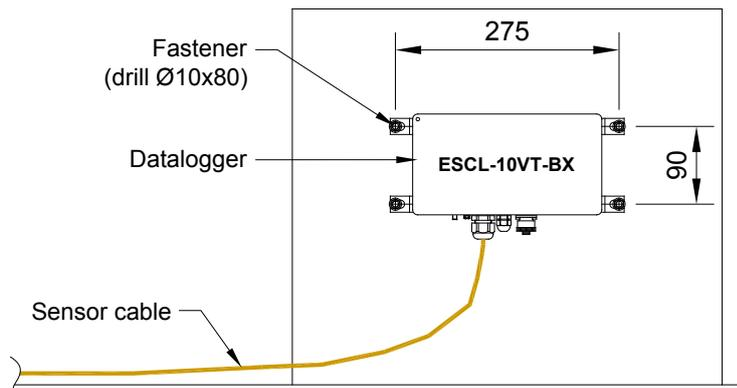

Figure 9-11: Mounting details of ESCL-10VT-BX datalogger
- 9.6.22 Alternatively, the datalogger can be mounted in custom made enclosure provided by client/user. Refer to figure 9-11.